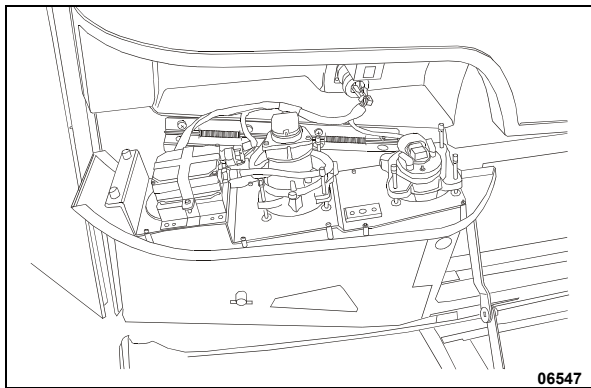

FIGURE 52: OPENING HEADLIGHT ASSEMBLY
Aiming can be performed without opening headlight assembly. Horizontal and vertical aiming of each module is provided by two adjusting screws that pivot the module in the housing for proper alignment (Figure 52). There is no adjustment for focus since the module is set for proper focus during manufacturing assembly.
2. Remove the headlight screw fixing the headlight assembly, then tilt headlight assembly down (Figure 52).